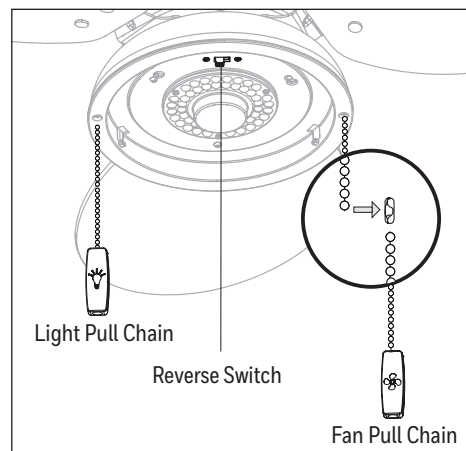

Figure 5.9
9. Attach the pull chain extensions to the pull chains. **Note:** When facing the reverse switch, the fan pull chain is on the right and the light pull chain is on the left (Figure 5.9).